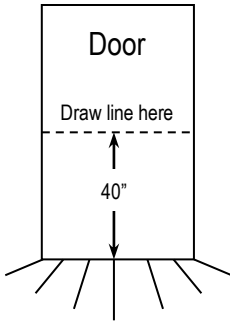

Fig. 5 – Using the Template
2. Fold the included template, and align the center lines on the template with the center line just drawn on the door. Then mark the position of the mounting holes for the latch assembly. See fig. 5.